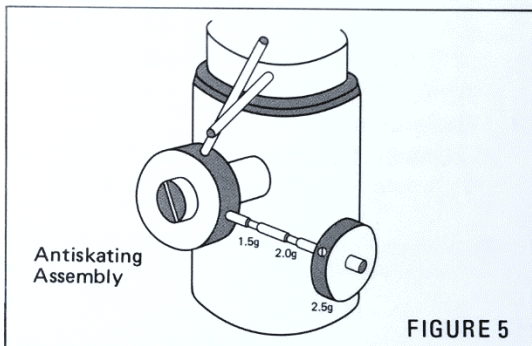

FIGURE 5
10. Adjust the position of the small weight on the antiskating mechanism to one of the three notches. The notch at the end of the bar corresponds to an antiskating force for 2.5 grams stylus force; the middle notch to 2.0 grams and the innermost notch to 1.5 grams. (Figure 5) Select the notch which corresponds closest to the stylus force selected in step 9.
NOTE: The Antiskating device can be set for conical, elliptical or Shibata type cartridges. Each notch-setting corresponds to the following chart (Figure 5).